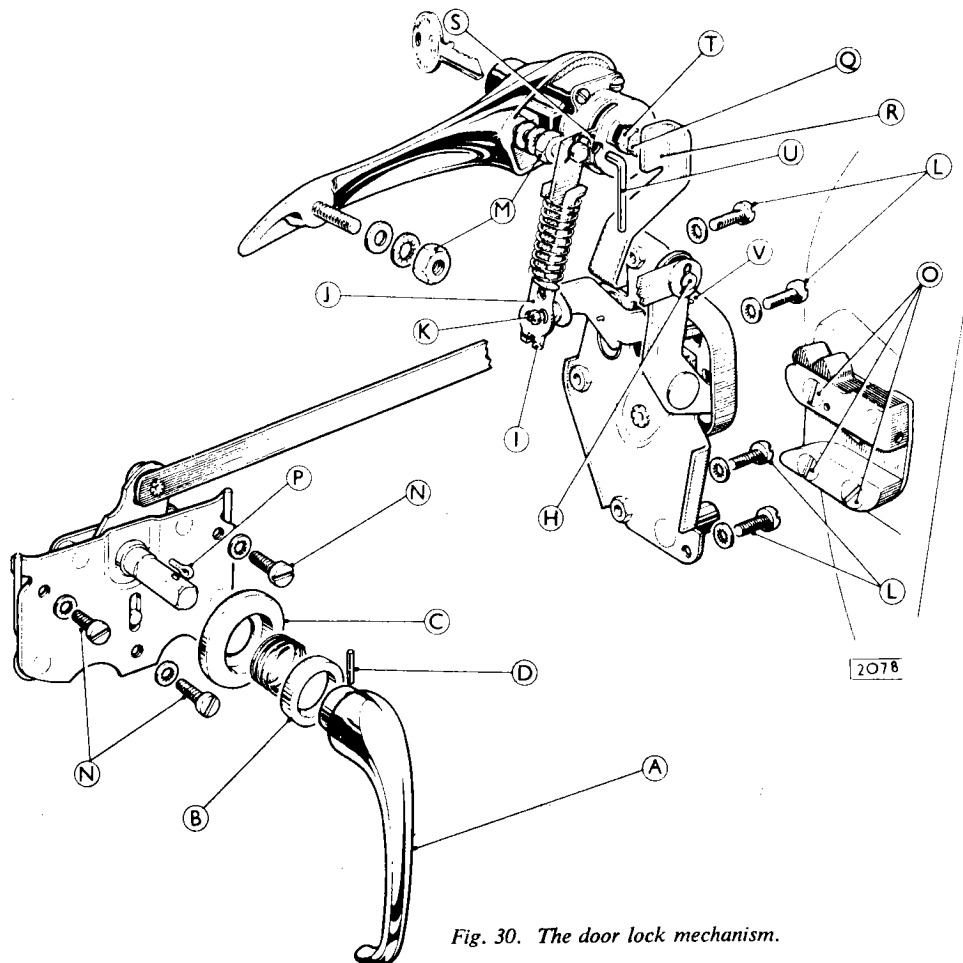

Fig. 30. The door lock mechanism.
The link is secured to the dowel (H, Fig. 30) on the lock lever by a circlip.
First release the spring (I, Fig. 30) holding the bottom of the outside handle extendable link (J) to the dowel (K) on the lock intermediate lever. This
This is retained by two nuts (M, Fig. 30).
Remove the three screws (N, Fig. 30) and take the remote control with its connecting link out through the aperture in the inner door panel.
The lock unit is inserted through the aperture in the inner door panel, passed around the window channel and lifted slightly until it projects through its cut-out in the door shut face. The four securing screws (L, Fig. 30) (with shakeproof washers) should then be fitted and tightened.
The remote control *must* be fitted in the locked position. For this reason it is supplied pinned in the locked position as shown at (P, Fig. 30).
The connecting link is fitted to the dowel (H, Fig. 30) on the lock operating lever and retained by a
Move the remote control *towards* the lock until the operating lever is in *contact* with the lock case as illustrated and tighten the three securing screws (N, Fig. 30).
The plunger housings on the outside handles are stamped LH or RH (left hand or right hand). The appropriate handle should be held in position on the door panel and the clearance between the push button plunger (Q, Fig. 30) and the lock contactor (R) checked through the aperture in the inner door panel. Do not check the clearance by depressing the push button as this may be deceptive. The clearance should be $\frac{1}{32}$ "
Ensure that the remote control cam is pinned (P, Fig. 30) in the locked position. It will be observed that one of the three holes in the bottom of the extendable link (J) can be aligned with the dowel (K) on the lock intermediate lever. The extendable link is simply pressed
Attach the striker loosely by means of its three screws (O, Fig 30) which pass through the door pillar into an adjustable tapping plate.
After assembly introduce a few drops of thin machine oil into the oil hole (V, Fig. 30) provided on top of each lock case and into the private lock key slots. These items should be lubricated once a month.